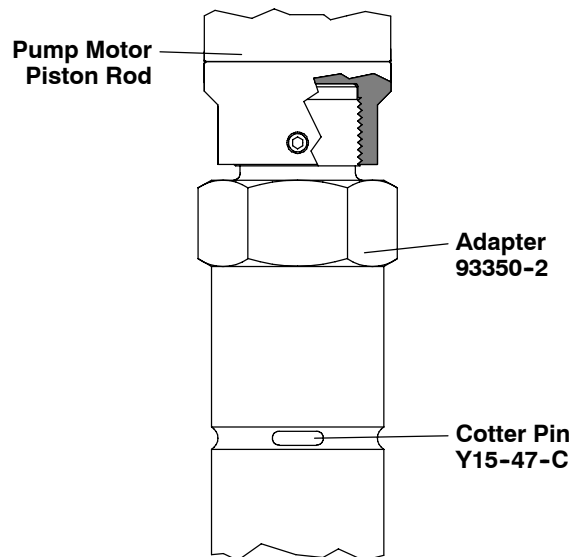

FIGURE 2
- Remove the cotter pin and unscrew the lower pump end rod from the adapter (see figure 2).